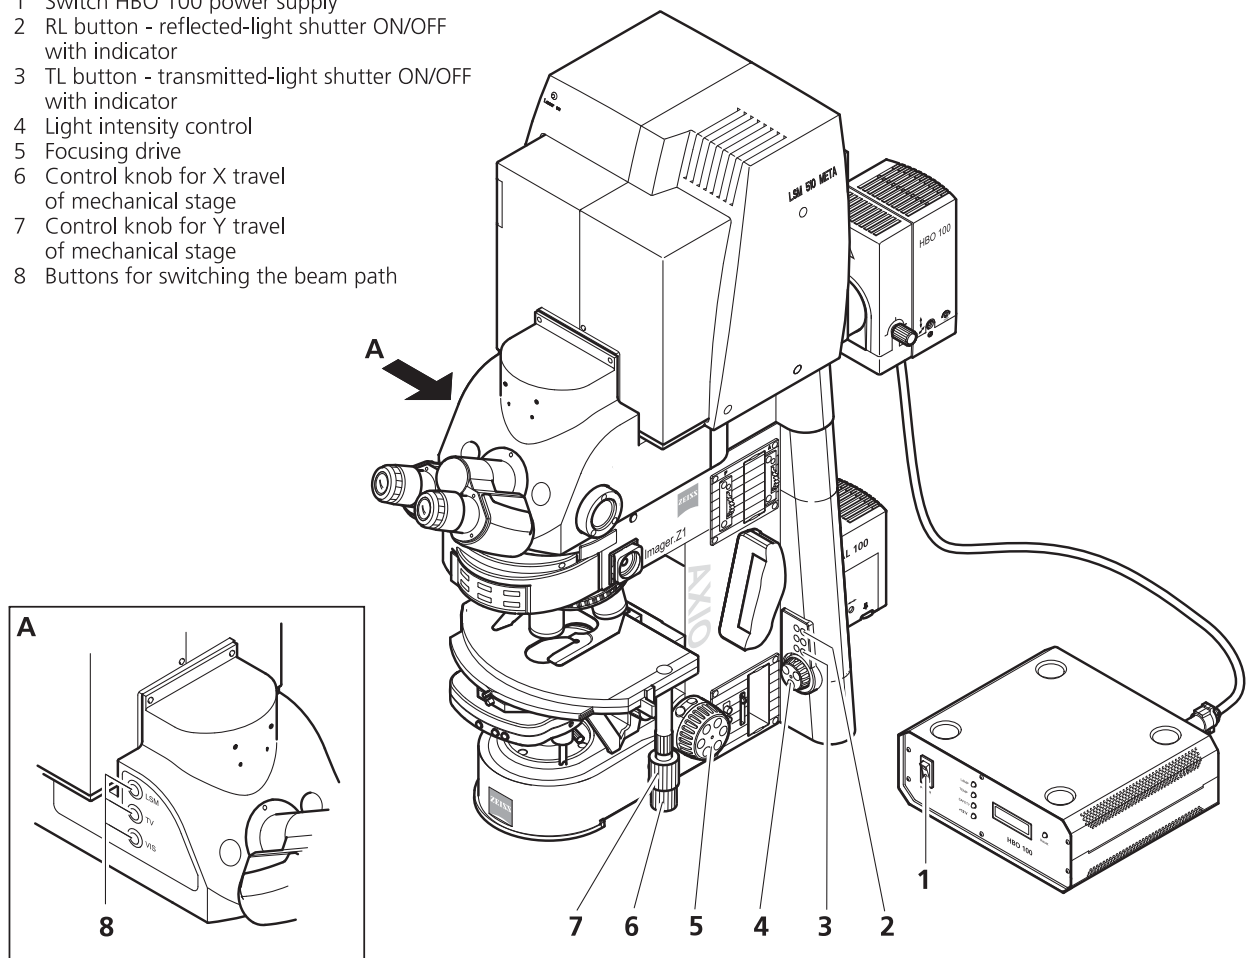

Fig. 4-28 LSM 510 with Axio Imager
(1) Microscope settings on Axio Imager for transmitted-light observation
- Pull out the push rod (Fig. 4-28/8) to switch the beam path of the tube in LSM position.
- Control the brightness of the halogen lamp with the potentiometer (Fig. 4-28/4) or the **Intensity %** slider in the **Ocular** panel.
- Use the focusing drive (Fig. 4-28/5) to focus the required object plane.
- Select specimen detail by moving the stage in X and Y using the XY stage fine motion control (Fig. 4-28/6 and 7).
(2) Microscope settings on Axio Imager for reflected-light observation (Epi-fluorescence)
- Turn on the HBO 100 W or X-Cite power supply with switch (Fig. 4-28/1).